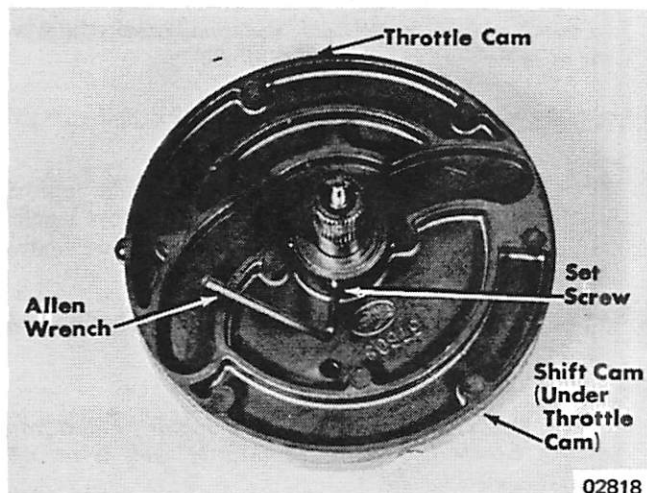

Figure 7. Loosening Set Screw
4. Remove set screw which secures control shaft to throttle cam. (Figure 7)